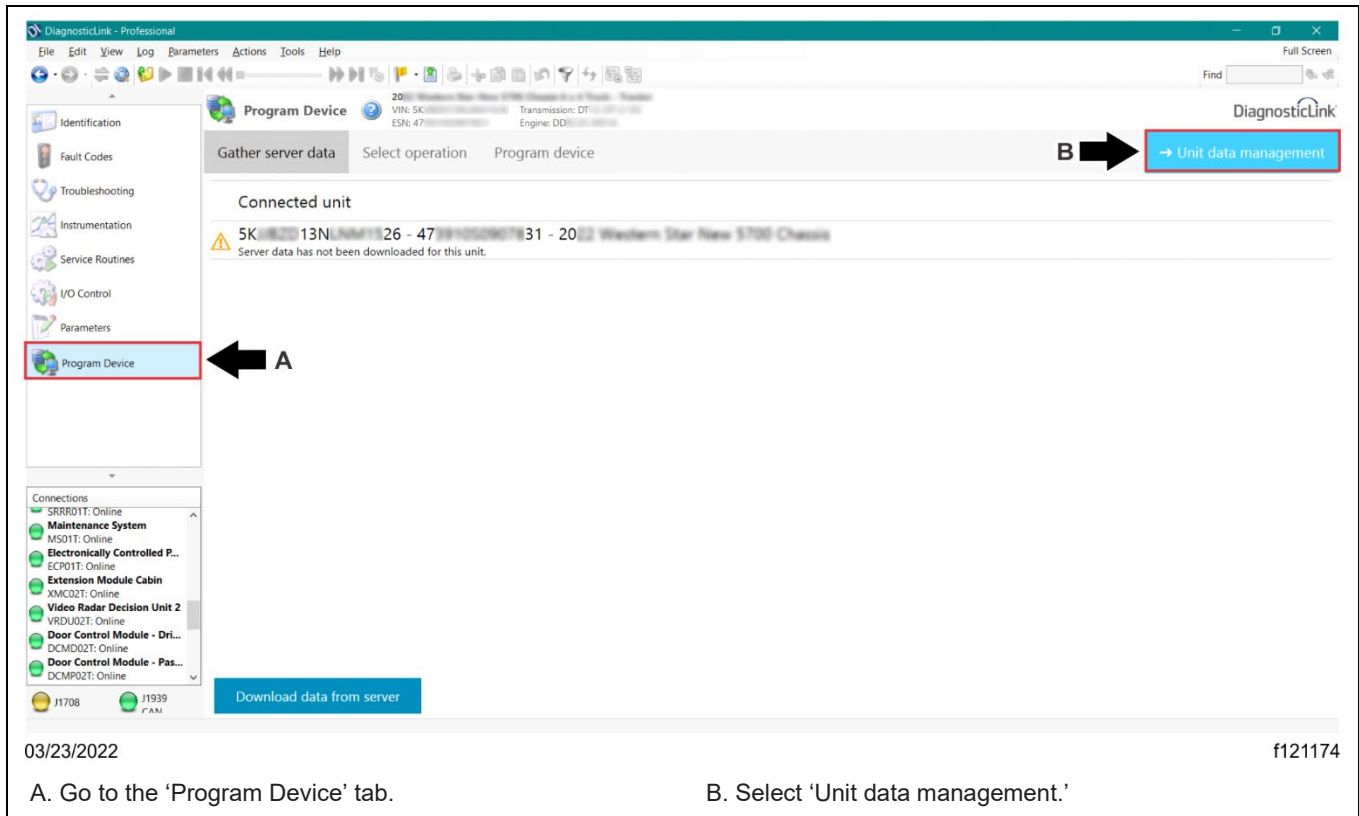

Fig. 9, Selecting Unit Data Management
24. Once the parameter change is complete, go to the 'Program Device' tab, then select 'Unit data management' in the upper-right corner. See **Fig. 9**.